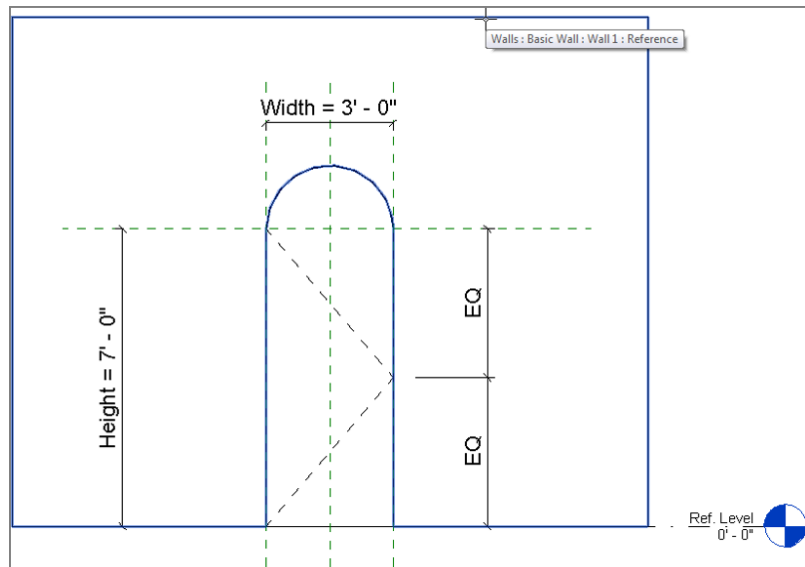

FIGURE 17.16: Setting the face of the wall as the work plane
5. Pick the face of the wall, as shown in Figure 17.16.